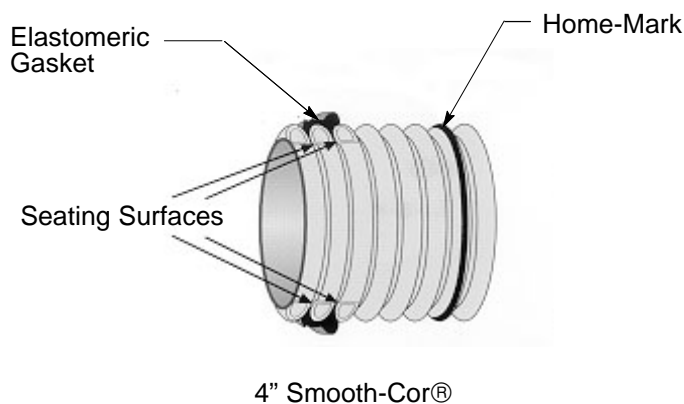

Figure 29
2. Place the gasket over the newly cut and cleaned end, making certain to seat the gasket on the second corrugation for 4" conduit. The higher ridge of the elastomeric seal is positioned toward the body of the conduit and the lower ridge toward the end of the conduit. Using a felt marker, place a home-mark on the conduit to achieve proper coupling. When using 4" conduit, place the home-mark on the seventh corrugation. Repeat steps 2-5 as shown on Page 12 and 13 to complete coupling. See Figure 29 below.